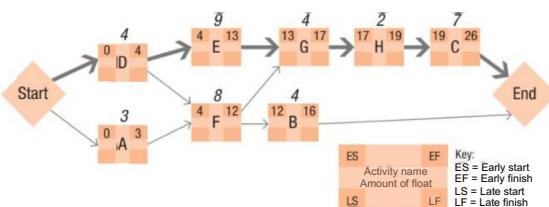

FIGURE 8.12 Forward pass through network diagram
Let's start with the forward pass. You need to calculate through the activities from <Start> to <End>, determining early starts and early finishes for all activities. This example uses zero as the early start for the first activity. Use figure 8.12 to walk through this.
- It is important to look at path convergence (where paths meet). To calculate the early start and the early finish in a forward pass, you must account for all the paths that lead into that activity (notice activities F and G in figure 8.12).
- The same concept applies to the backward pass. To calculate the late finish and late start you need to consider all paths that flow backward into an activity (activities D and F in figure 8.12).
- In figure 8.12, paths converge at activities F and G.